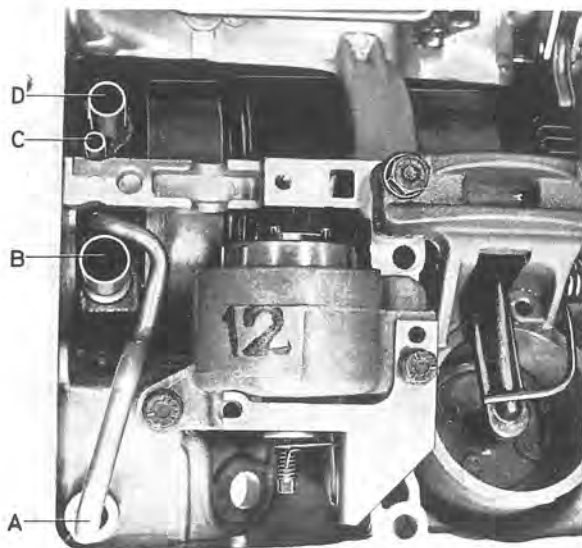

Fig. 4-119. Location of oil tubes, front of gearbox
23. Fit the oil tubes for the pump and converter on the pump body, see Fig. 4-119. Do not forget the O-ring for the pump inlet tube.